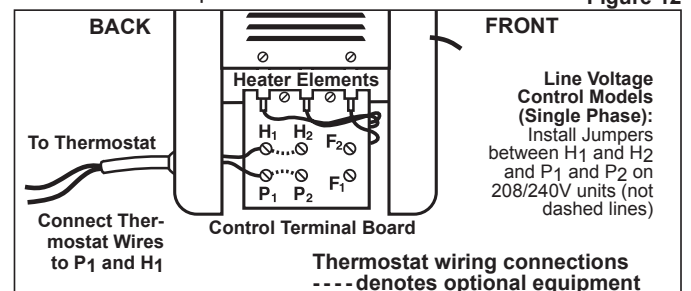

Figure 12
1. A knockout is also provided in the back of the unit for control wiring. This knockout is sized for 1/2" conduit (See Figure 12).
4. Connect the thermostat wires to terminals H1 and P1 as shown in Figure 12. On 240 volt, single-phase model with line voltage control, install jumpers as shown in Figure 12.